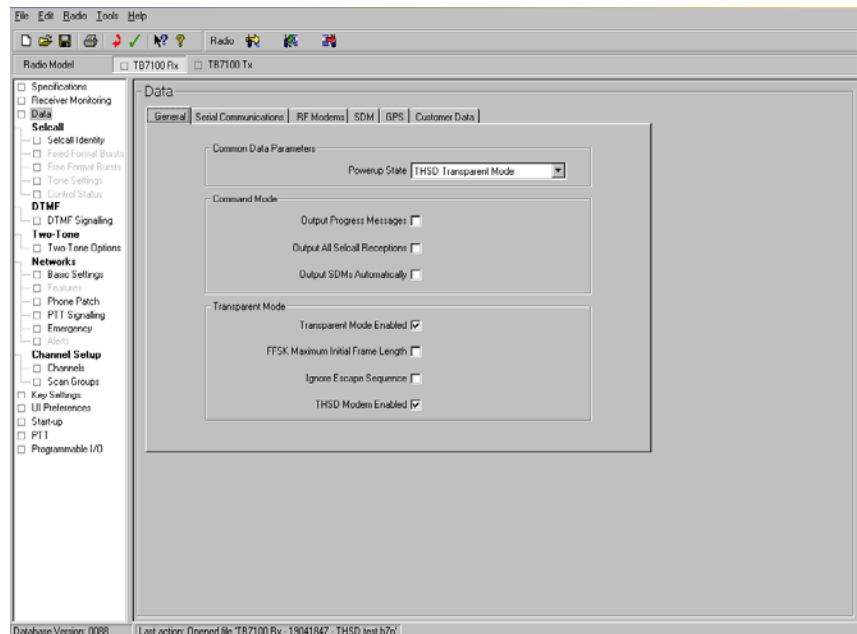

Figure 13
- Under Data>General Only set the following parameters as shown in **figure 13**: